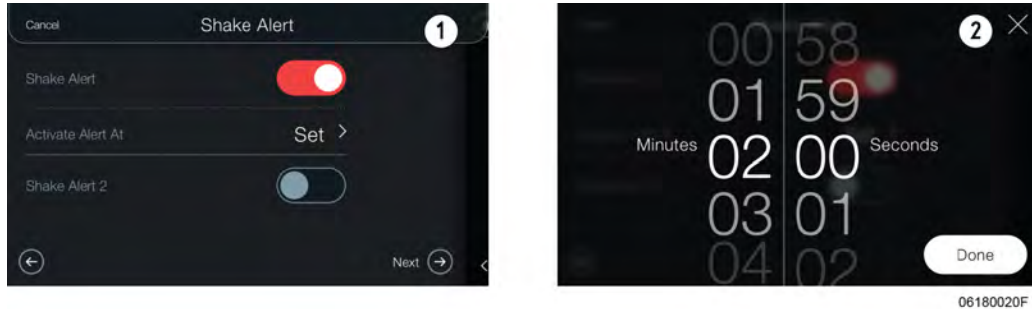

Figure 5-12
5. **Shake Alert** - The shake alert provides an alarm to remind team members to lift the basket and shake to separate the food item within the fry basket. To add a shake alert, tap the toggle switch on the display to reveal the shake alert settings, see (1) in Figure 5-12 , page 46. Tap **Set** next to **Activate Alert At**. Swipe up or down to select the time remaining on the timer when the alert sounds. For example, if you have a 3:00 cook cycle and want to set a shake alarm to sound after 30 seconds, set the Activate Alert